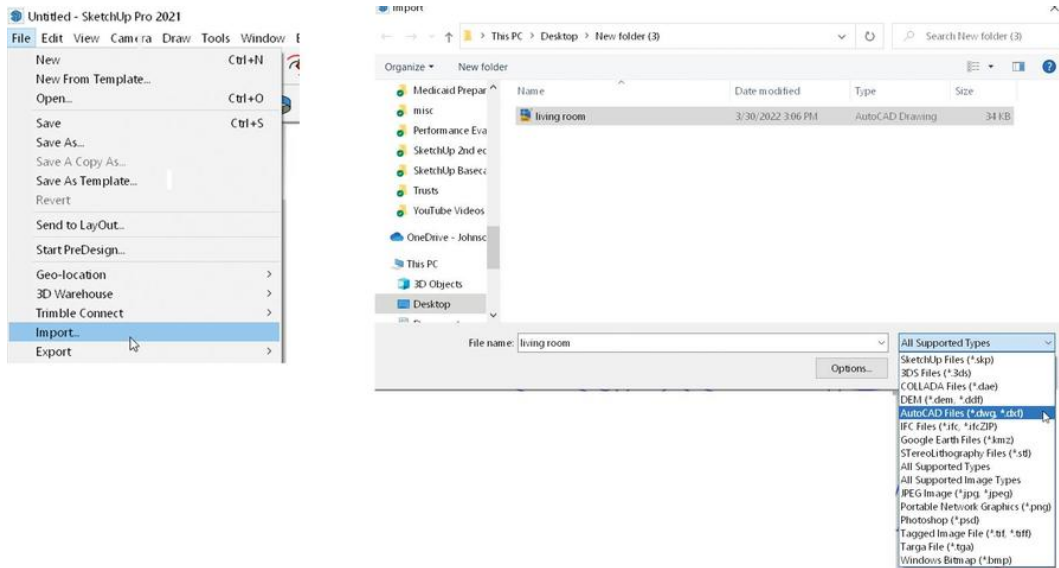

Figure 5-71: Locate the file to import.
1. Click **File>Import**, navigate to and select the DWG file. Make sure that either *AutoCAD Files* or *All Supported Image Types* is visible in the Files field. Then click the *Options* button (Figure 5-71).